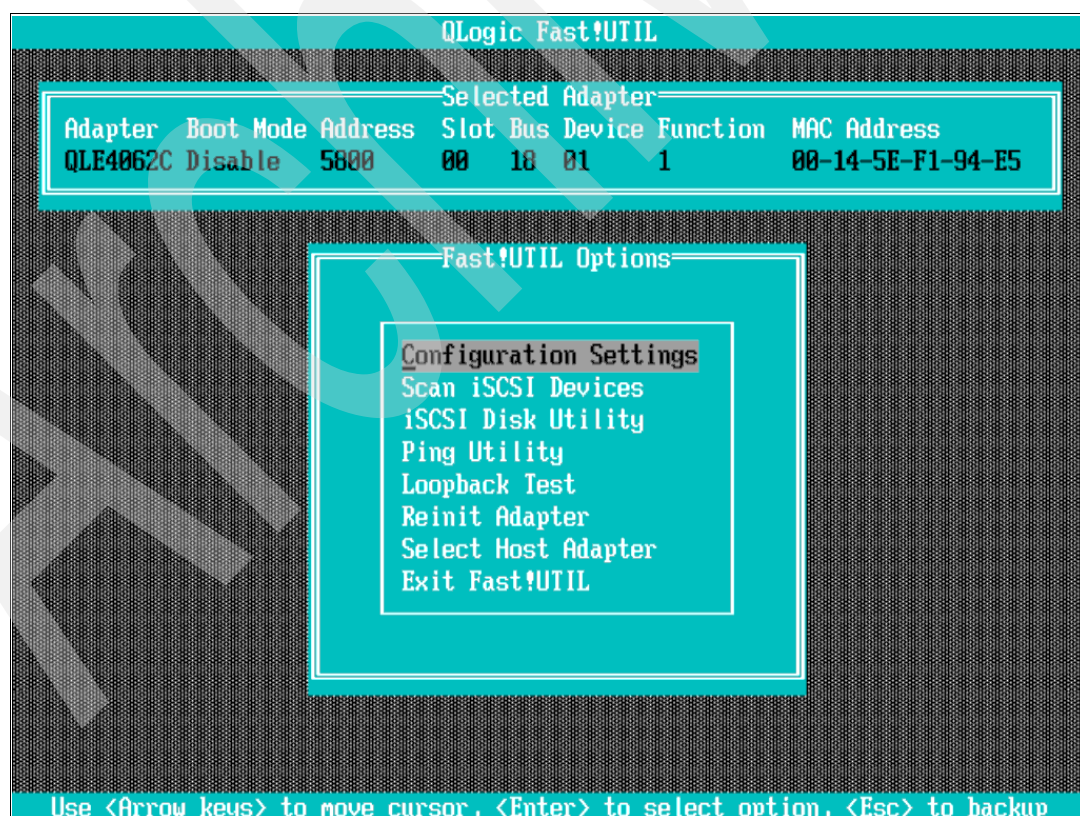

Figure 5-60 Fast!UTIL Options menu window
- From the QLogic Fast!UTIL menu, select the first host bus adapter port (port 0) and press Enter. You see a window similar to Figure 5-60.